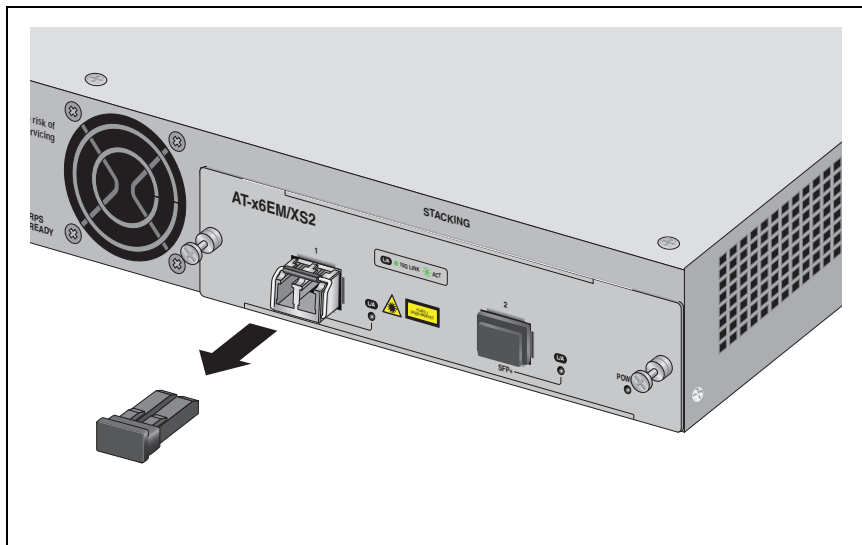

Figure 67. Removing the Dust Plug from an SFP+ Transceiver
6. Remove the dust plug from the SFP+ transceiver, as shown in Figure 67.